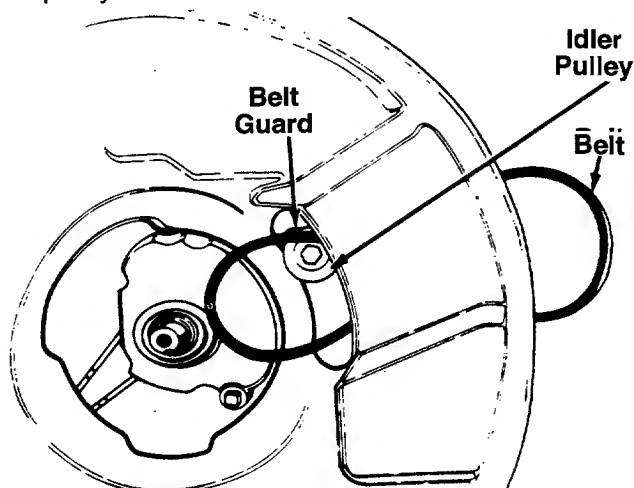

FIGURE 14.
8. Remove the belt from between the idler pulley and the belt guard on the idler pulley bracket. See figure 14. Remove the belt from the transmission pulley.
- A. Push the idler pulley up out of the way as shown in figure 14.
- B. Slide the belt in from the rear of the deck, and place it around the transmission pulley. See figure 14.